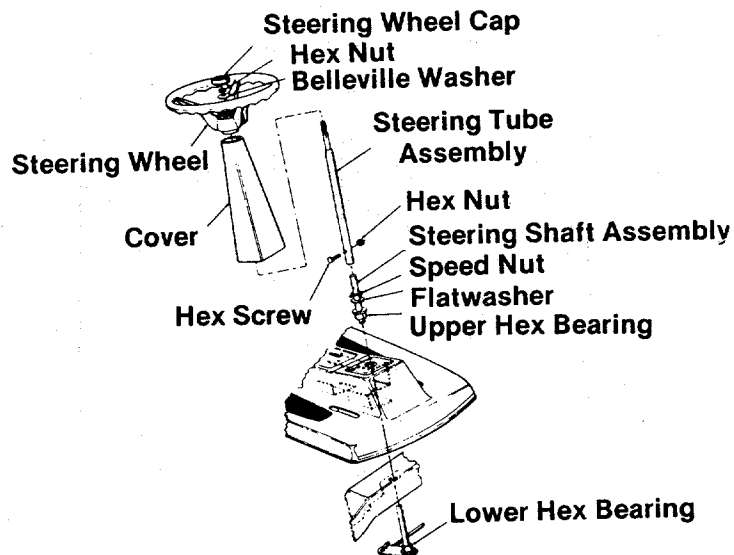

FIGURE 1. STEERING ASSEMBLY
STEERING WHEEL ASSEMBLY See figures 1, 2 and 3.
1. Check the upper and lower hex bearings, be sure they are seated and in position. See figure 1.
8. Place the steering wheel on the tubing assembly and fasten with belleville washer and hex nut. See figure 1.